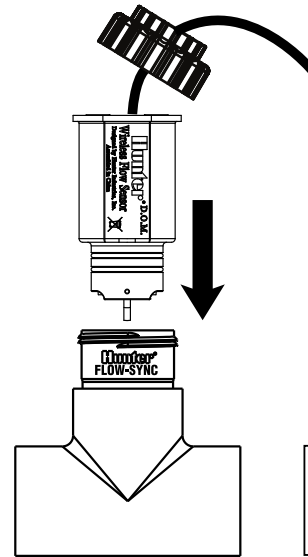

Figure 2
4. Insert the sensor into the FCT. The sensor has a flat side that engages on the inside of the sensor body (figure 2).